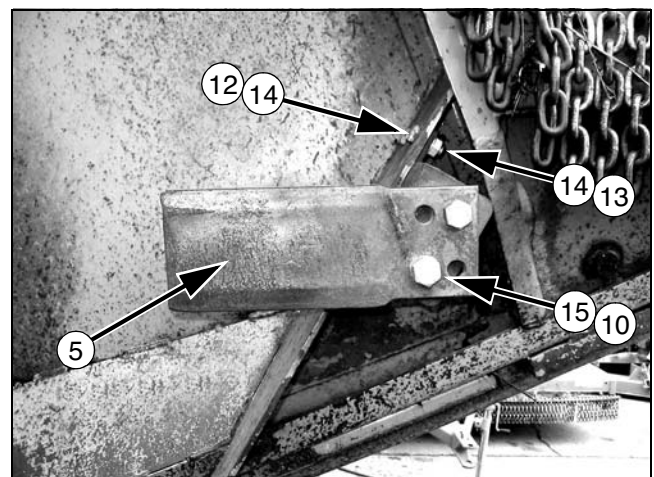

Figure 42. Stationary Blade Installed - Right Wing
1. Attach mounting bracket (6) to the front side of the front baffle and secure with cap screws (12), hardened flat washers (14) and lock nuts (13). Do not tighten hardware.
2. Attach stationary blade (5) to mounting bracket (6) using two cap screws (10), four hardened flat washers (15) and lock nuts (11). Blade should be angled by using the first hole on the left side and the second hole on the right side. Refer to Figure 42.
3. Rotate crossbar and blades so stationary blade fits between the two crossbar blades. Adjust mounting bracket (6) so the stationary blade (5) is 1" below flat blade (4), Tighten all hardware. See Figure 42.